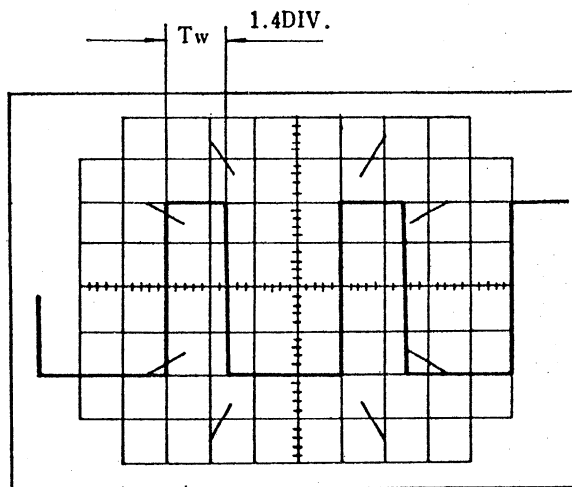

Fig. 3-19 Pulse width measurement.
1. The pulse under test is displayed with adjustment of the appropriate controls. Unless the actual amplitude is measured at the same time, it is advisable to use the VARIABLE control on VOLTS/DIV switch to set the pulse height to cover 4 div, Fig. 3-19.
After the pulse amplitude measurement, set the height with VARIABLE of VOLTS/DIV to cover 4 div on the vertical scale. Position the pulse to set the left end of the flat top, 90% or 50% point on one of the vertical lines, see Fig. 3-19.